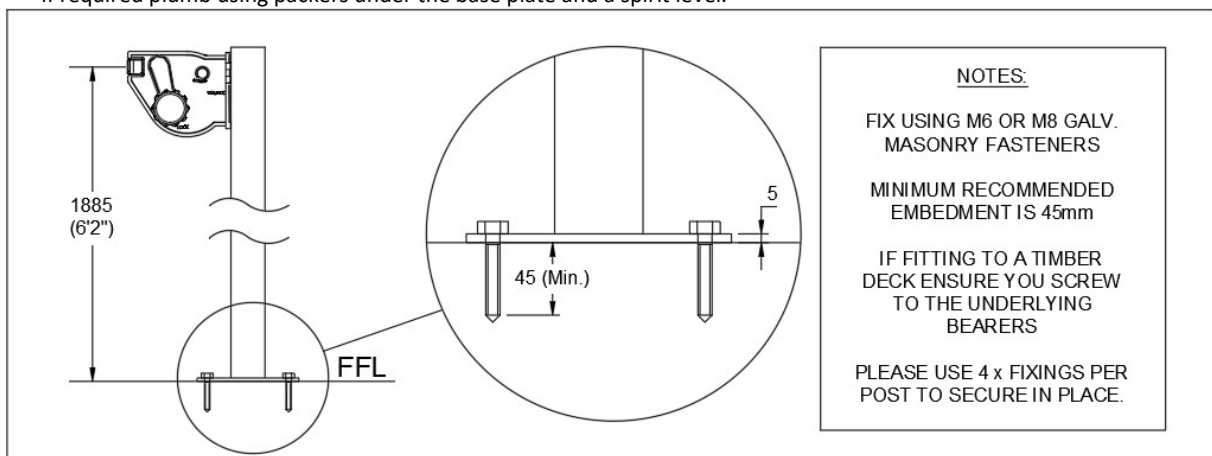

Fig. 9 Installation of Plated Post.
- Install the Post as per the below image (Fig. 9).